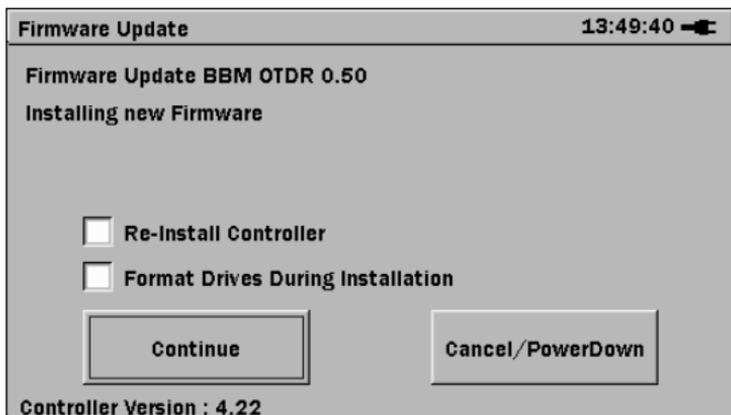

Figure 6-2: Installing New Firmware Screen
4. The text “Finding Update File” changes to “Extracting Update File.” When the update file is fully extracted, the Installing new Firmware screen appears (see Figure 6-2 on page 6-3).